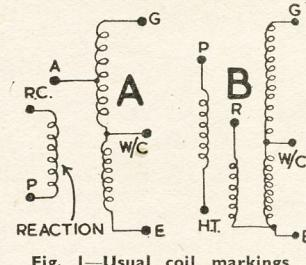
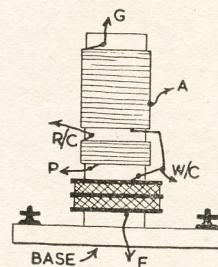

Fig. 1—Usual coil markings
Fig. 2—How windings are arranged
Fig. 2 shows the way in which the majority of Long and Medium Wave Coils are wound. (If the coil has a metal screening can this should be lifted off for examination). In Fig. 2 the ends of the windings are marked to agree with (A) in Fig. 1, and are connected in the same
way. These ends will pass down inside the former and go to the various terminals. Therefore, by examining the coil in conjunction with Fig. 2, it will be possible to see which terminals form the various connexions and the terminals may be marked, or the numbers by them noted down.
Where coupling windings are included (B, Fig. 1) these are usually wound upon a strip of insulating material which has been placed round upon the windings, shown in Fig. 2. But sometimes the winding may be on the former itself, and in each case it should be quite